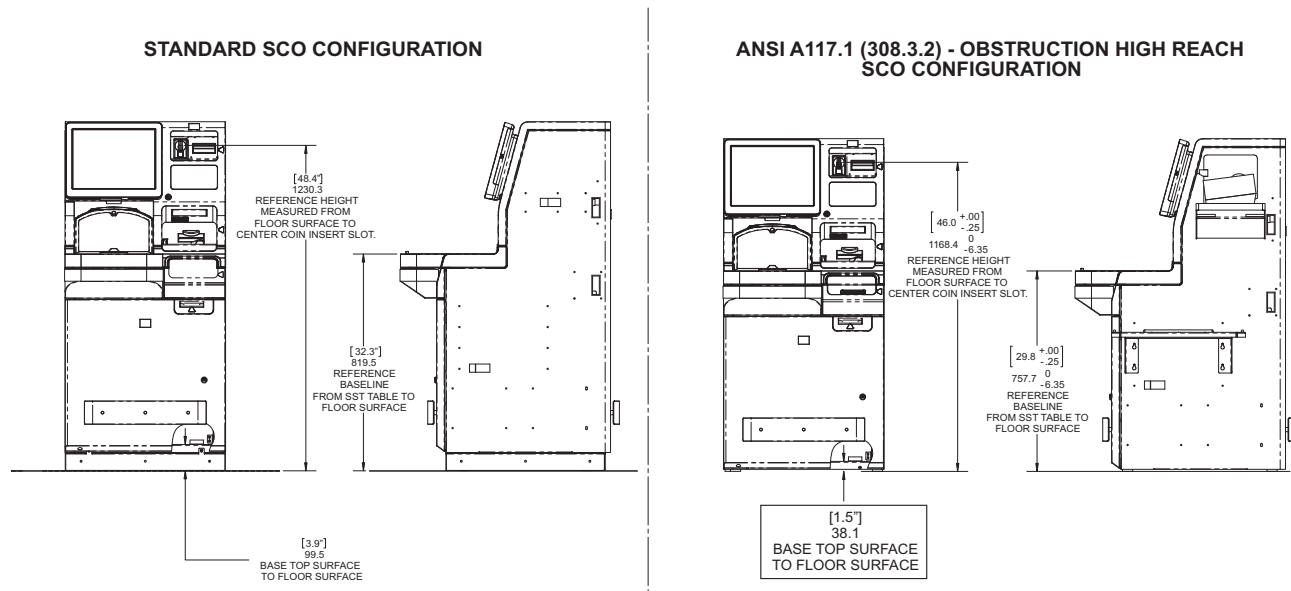

Figure 4.2 Customer Station vertical dimensions: Standard versus ANSI A117.1 (308.3.2) compliant
1. Adjust the height of the Customer Station to match the specification of 1.50 inches/38.1 mm base top surface to floor surface (as shown in Figure 4.2 on page 131).